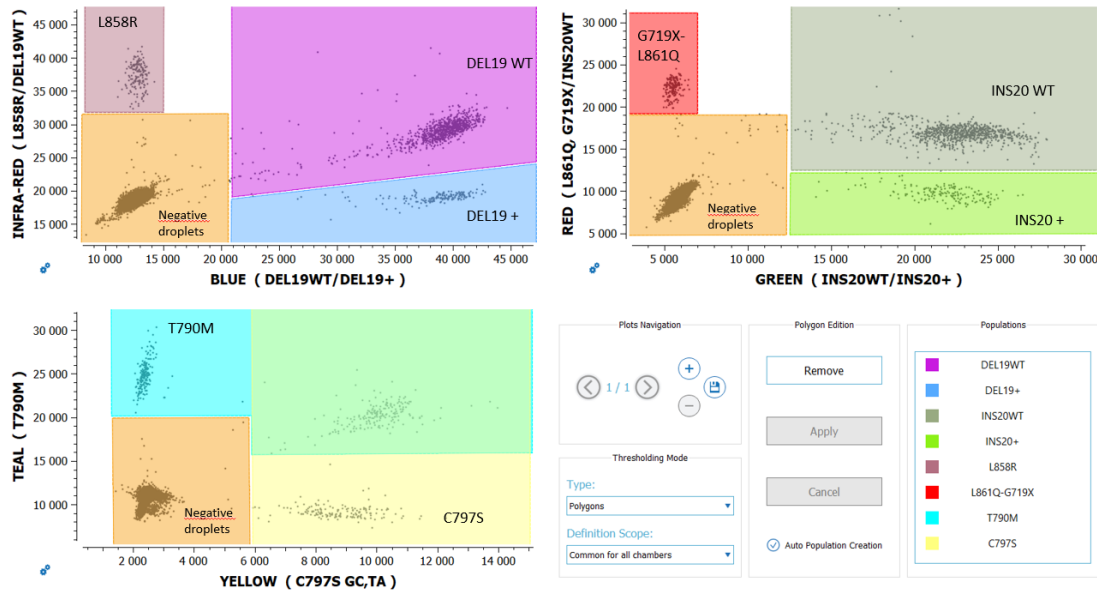

Figure 5: An example illustrating correct placement of the polygons on the positive control in the Crystal Miner software.
- Check or manually adjust the position of the polygons for each target population listed in the “Populations” widget for the **positive control** of the run (refer to the example in Figure 5 below).